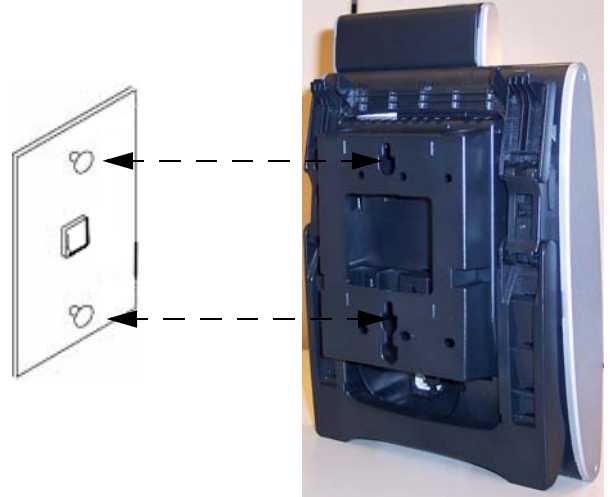

Figure 5-119 Mount Multiline Terminal Wall on Wall Plate
6. Align the two holes on the back of the WM-L UNIT with the two screws on the wall plate and slide downward (refer to Figure 5-119 Mount Multiline Terminal Wall on Wall Plate).